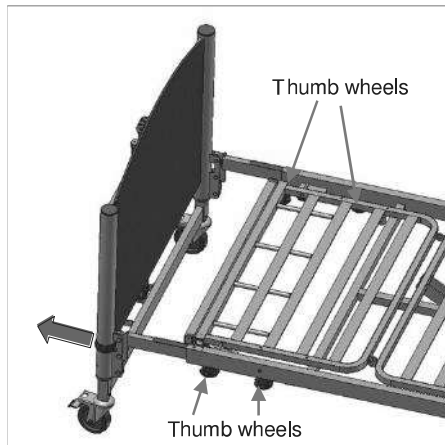

Figure 15: Extending the bed frame
- While holding the foot end near the locking collars pull the bed extension out until it reaches the end stops (*Figure 15*).